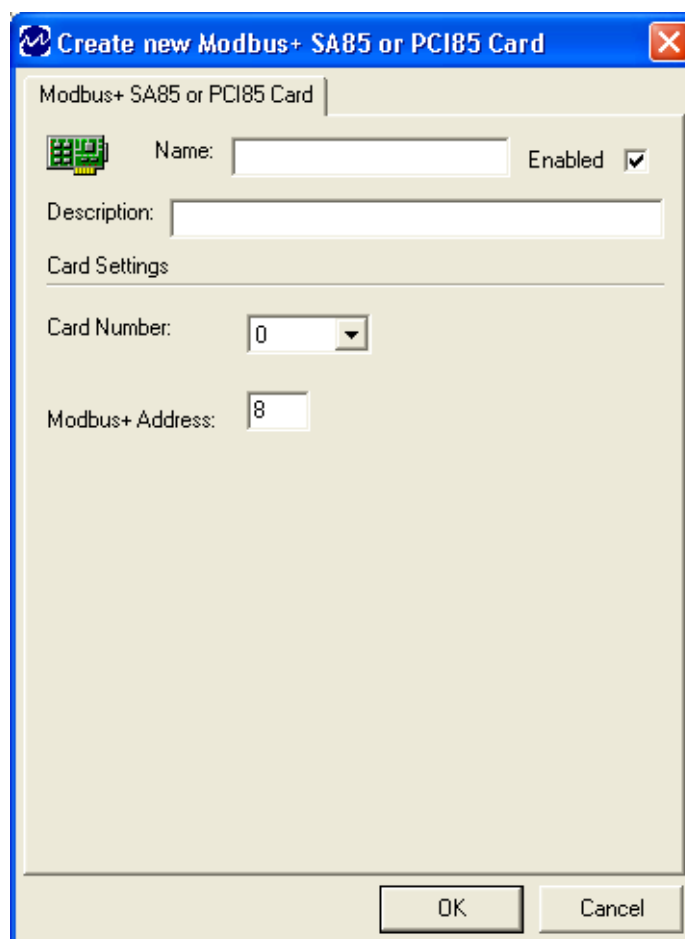

Figure 8 - Create New Modbus+ SA85 or PCI85 Card Window
The **Create New** window (Figure 8) displays the settings available for a connection to a Modbus+ SA85 or PCI85 Card.
5. The **Create New** window appears (Figure 8).